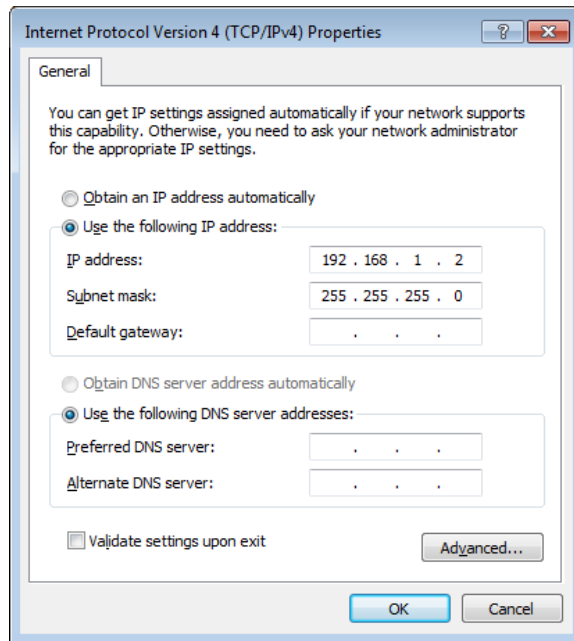

Figure 1.14. Static IP configuration of PC
1. Use one of the network cards and set it to static IP in TCP/IPv4 using the IP address 192.168.1.n, where n=[2..9] and the mask 255.255.255.0, see Figure 1.14 (go to Control Panel → Internet Options → Network and Internet → Network and Sharing Center → Local Area Connection → Properties).